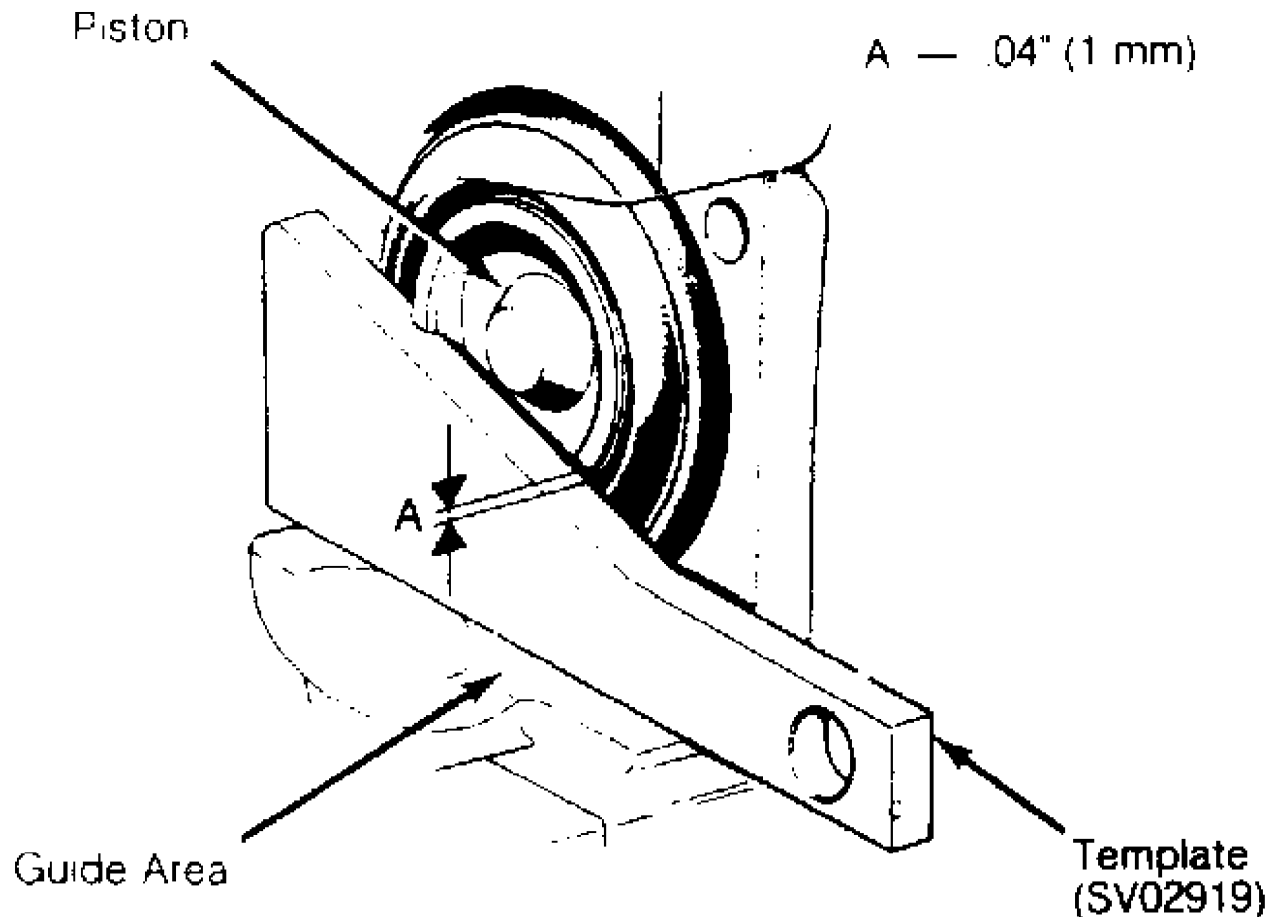

Fig. 1: Checking ATE Rear Caliper Piston Angle To Avoid Brake Squeal
2) Seat pistons in caliper bore with Piston Tool (2809). To avoid brake squealing, check piston position by installing Template (2919). Piston recess should incline 20 degrees in relation to lower guide area on caliper. See Fig. 1.
Adjuster (2918) to rotate piston. See Fig. 1.
Coat all parts with clean brake fluid. Install new piston seals in cylinder bores. Carefully install pistons into cylinder bores. On ATE rear brake calipers, check piston position. See DISC PADS under REMOVAL & INSTALLATION. See Fig. 1. Install dust boots and retaining clips. Install bleeder screw and disc pads.